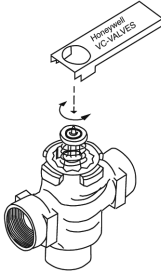

Fig. 3.
5. To replace a cartridge, isolate flow to the valve using installed shutoff valves or other service equipment designed for this purpose. Remove old cartridge with 40007029-002 wrench supplied with the replacement unit (See Figure 3). It may be necessary to use pliers or other tools to remove the old cartridge due to calcium or dirt buildup in the valve body.